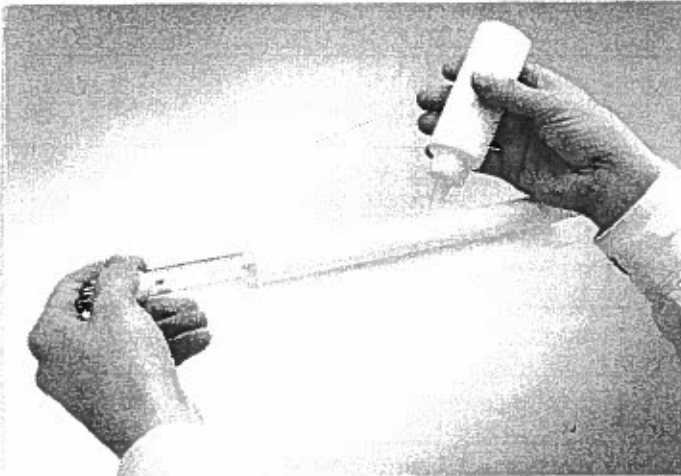

Figure 4: Application of Cleaner with Cloth.
Step 2: Clean the Lamp/Sleeve with a commercial product "scale remover" (such as Lime-Away or CLR). Figures 4 and 5 illustrate how the Lamp/Sleeve should be cleaned. When using acidic solution (scale remover) for cleaning follow the manufacturer's directions for proper use and safety. After the Lamp/Sleeve is cleaned handle it by the ends only. Avoid touching the Lamp/Sleeve glass with fingers as skin oils will impair proper ultraviolet radiation.